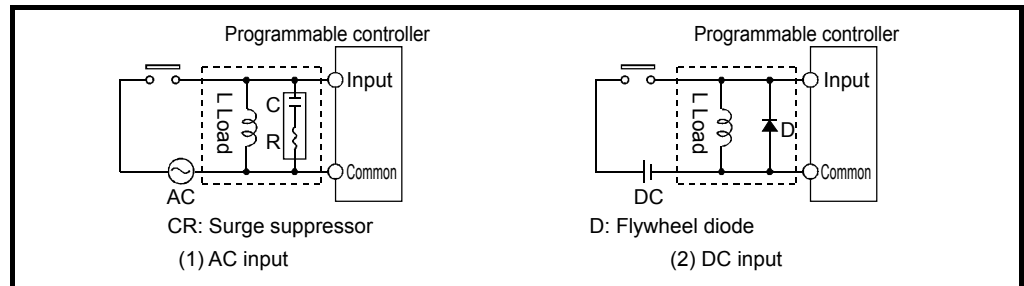
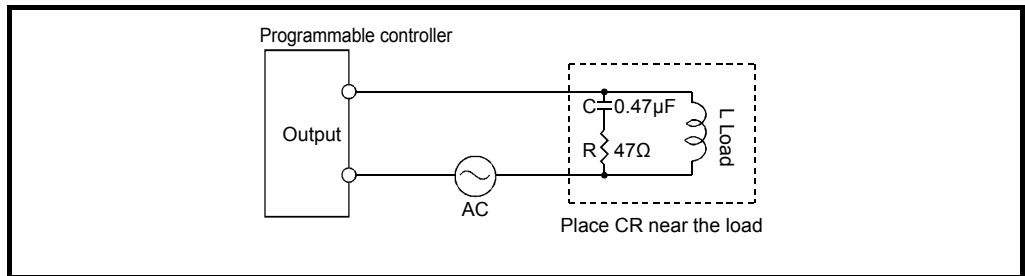
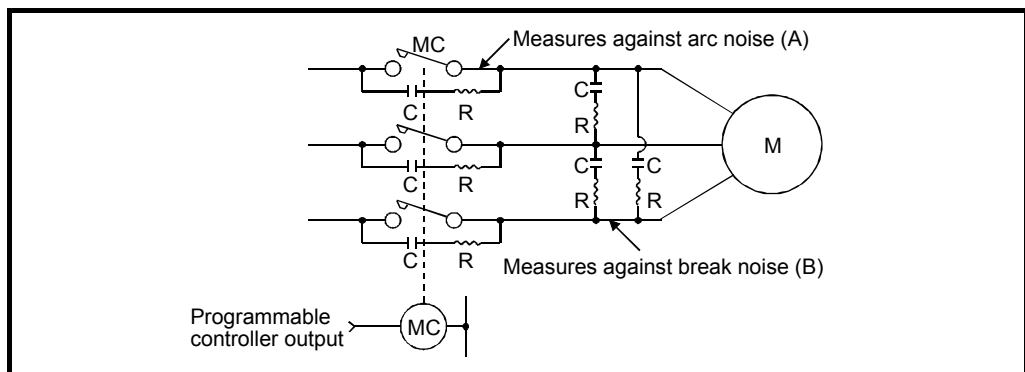

Figure 9-3 When There Is an Inductive Load in Parallel with Input
Figure 9-5 Measures against Noise in Alternate Current Inductive Load
Figure 9-8 Measures against Noise in a High Capacity Load
- (4) For an alternating current inductive load where a large amount of noise is generated during shutdown, effective will be the opening and closing of it at a triac that will be shut down by the load current.
- (5) For arc noise when opening and closing the contact of an electromagnetic contactor, it would be effective to connect a CR surge suppressor across the contact. Note that, even when the contact is opened, the CR surge suppressor circuit causes a leakage current (part (A) in Figure 9-8).
- (6) When the shutdown noise of a motor or transformer matters, connect a CR surge suppressor between phases (part (B) in Figure 9-8).
(1) When noise is generated in sync with the behavior of a specific output equipment	<p>1) Noise or surge from output equipment are considered as the major cause. When the instrument is turned ON and OFF, this trouble always or sometimes occurs and the programmable controller stops.</p> <p>In such cases, measures in Figure 9-5 and 9-6 are usually effective as measures against noise. A surge suppressor and diode are not effective unless they are connected most close to the load. Note that, for a high capacity load, take measures described in Figure 9-8.</p> <p>2) Possible troubles occurring in sync with the behavior of the instrument include bad connection such as disconnection and slackness of an input cable and bad electrical contact of input equipment. Conduct an inspection thoroughly.</p>
(2) When noise is generated in sync with the behavior of an instrument irrelevant for the programmable controller	<p>1) Such noise is caused by noise or surge from another instrument. Thus, conduct the same measures as for item "(1)" above.</p> <p>2) Try out measures such as grounding when using the instrument without grounding it and changing to non-grounding when using it by grounding it, set an I/O signal wire apart from the cable laying of the corresponding equipment, or consider the route.</p>
(3) When noise occurs in applying a high capacity load	<p>1) Possible causes include the reduction of the power supply voltage and the rise of the ground potential of shared grounding. If the power supply voltage is reduced to lower than the prescribed value when the load is applied, add a constant-voltage transformer in the power supply and change the power supply systems.</p> <p>2) When grounding has been done, ungrounding may be an alternative measure.</p>
(4) When the behavior of the programmable controller is unstable at random	<p>1) Either in the event of frequent instantaneous power failures of the power supply, when the waveform is significantly poor, or when there are many power supply noises, it would be effective to add a constant-voltage or only an isolation transformer.</p> <p>2) When there is impact of a high frequency equipment, ensure to ground the high frequency equipment and the programmable controller storage panel and shield the I/O signal wire of the programmable controller.</p>
(5) When the induced voltage of an input is high	<p>1) The programmable controller will not stop, resulting in false input causing faulty output. Even if the induced voltage is low, it is overlapped with noise, and results to false input.</p> <p>In that case, take the measures described in Figure 9-3.</p>
(6) Others	<p>1) Noise from the ignition system of a forklift: Occurs when a car passes by.</p> <p>2) Noise affected by radio wave: Occurs when a door of the control panel is opened.</p> <p>3) Noise generated by radio wave: Occurs when a transceiver or cellular phone are used.</p>